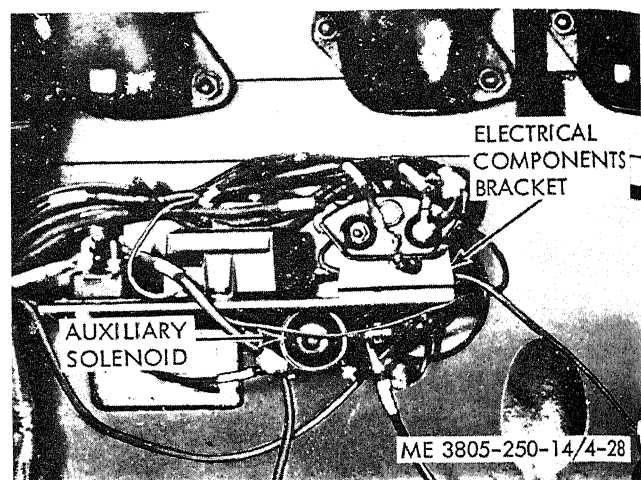

Figure 4-28. Auxiliary solenoid, removal and installation.
(1) Place the master switch in the off position and disconnect the battery ground cable.
(2) Tag and disconnect all wiring from the auxiliary solenoid terminals (fig. 4-28).
(3) Remove two mounting screws and washers, and remove the solenoid from the electrical components bracket.